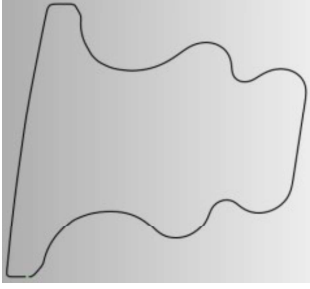

Figure 117
- A curve object is created in the **Model Manager Panel**, Right click and choose **Hide** on the root to view the new **Free Curve** object, see **Figure 117**.